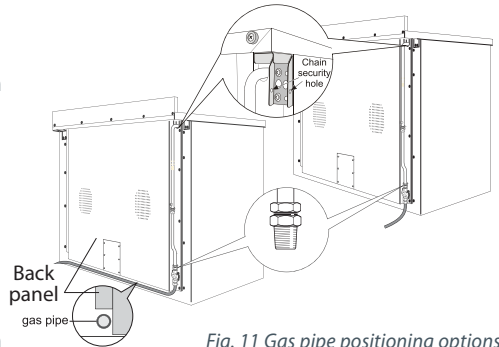

Fig. 11 Gas pipe positioning options
- The connection must be made at the rear of appliance; the pipe is not to cross the cooker. If the connection pipe does cross the cooker, it must be positioned under the cooker's back panel, as shown (Fig.11).